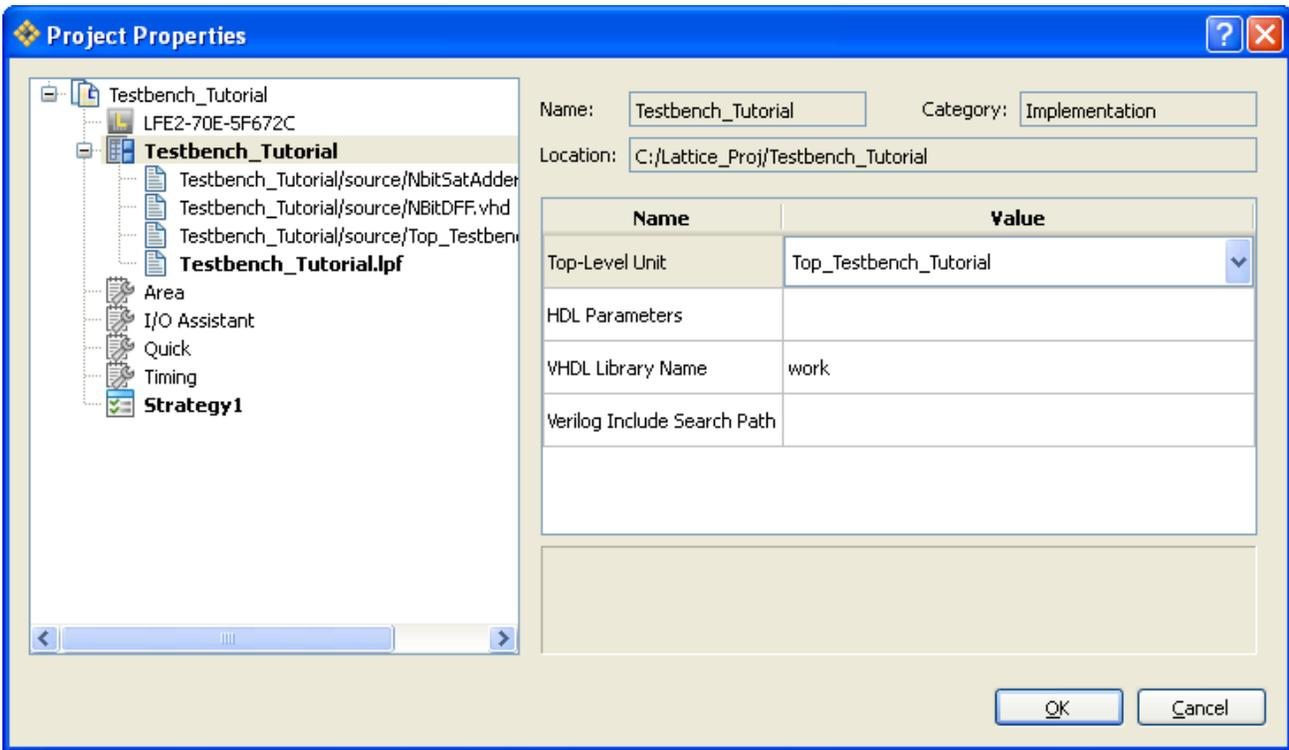

Figure 2 – Project Properties Window
7. In the Project Properties dialog box, ensure project is highlighted and in the value cell for "Top-Level Unit", select Top_Testbench_Tutorial. This file might need to be typed in manually. This can be seen in Figure 2 below.